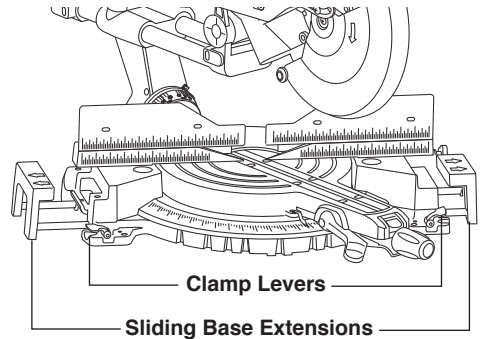

Figure 22. Sliding Base Extensions
**Sliding Base Extensions** – These extensions provide extra workpiece support and are especially useful when cutting long workpieces. To reposition the extensions, simply unlock the Base Extension Clamping Levers, reposition the extensions, and relock the levers (Figure 22). (See also Length Stop on page 30.)